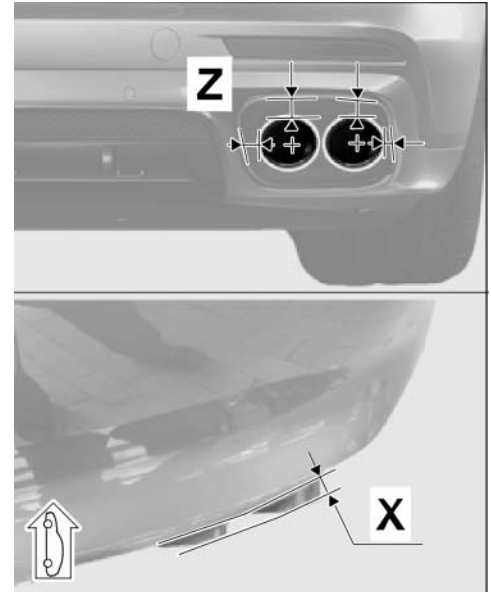

Figure 28
- 3.6.2 Check that the gap = "dimension Z" between the new sports tailpipes and exhaust system cover (rear apron – left and right side of vehicle ⇒ *Figure 28-Z-*) is symmetrically constant.
- 3.6.3 Check that the sports tailpipes project equally = "dimension X" with respect to the rear apron (left and right side of vehicle ⇒ *Figure 28-X-*).